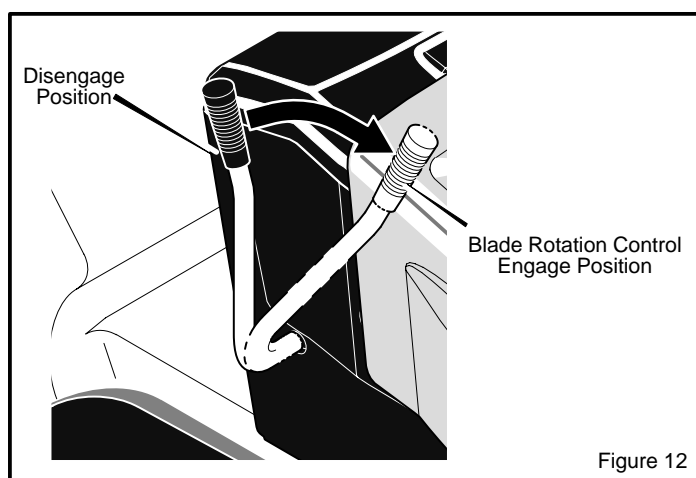

Figure 12
2. Move the **blade rotation control** to the **DISENGAGE** position (Figure 12).